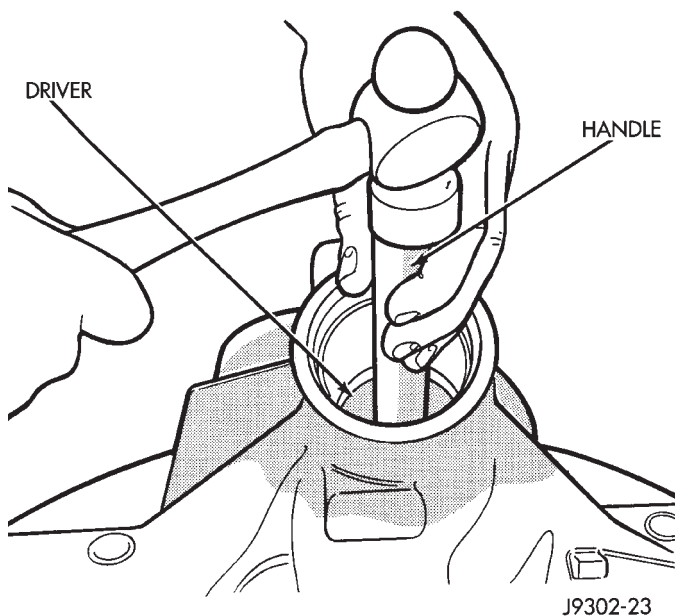

Fig. 43 Rear Bearing Cup Removal
(10) Remove the rear bearing cup from housing (Fig. 43). Use Remover D-149 and Handle C-4171.